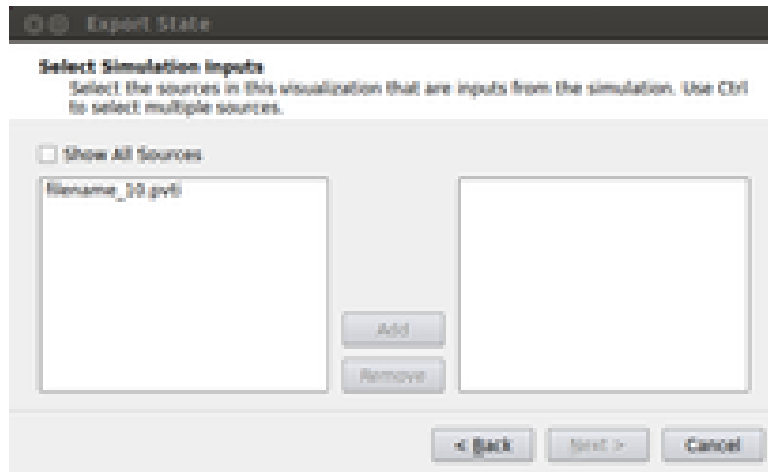

Figure 2.3: Selecting filename\_10.pvti as an input for the Catalyst pipeline.
4. After that, the user must select the sources (i.e. pipeline objects without any input connections) that the adaptor will create and add them to the output. Note that typically this does not include sources from the Sources menu since the generated Python script will instantiate those objects as needed (e.g. for seeds for a streamline). In the case shown in Figure 2.2 the source is the filename\_10.pvti reader that is analogous to the input that the simulation code's adaptor will provide. The user can either double click on the desired sources in the left box to add them to the right box or select the desired sources in the left box and click Add. This is shown in Figure 2.3 below. After all of the proper sources have been selected, click on Next.